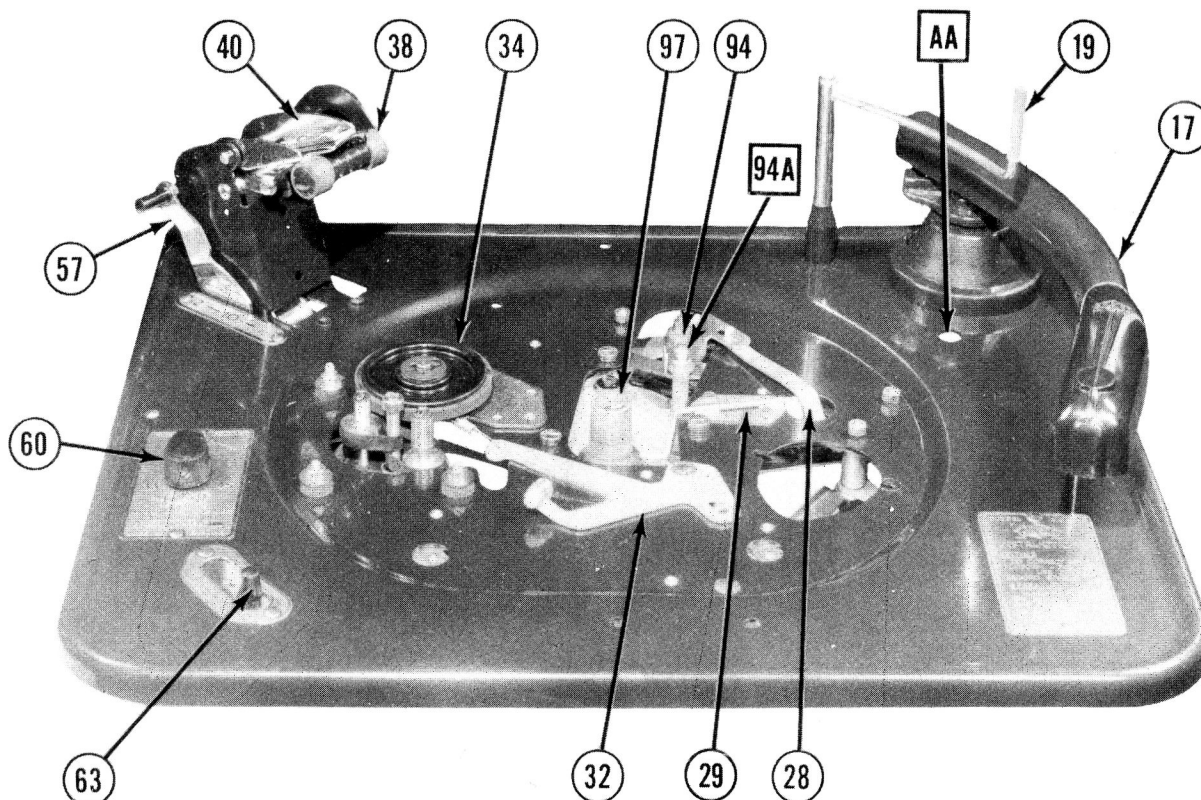
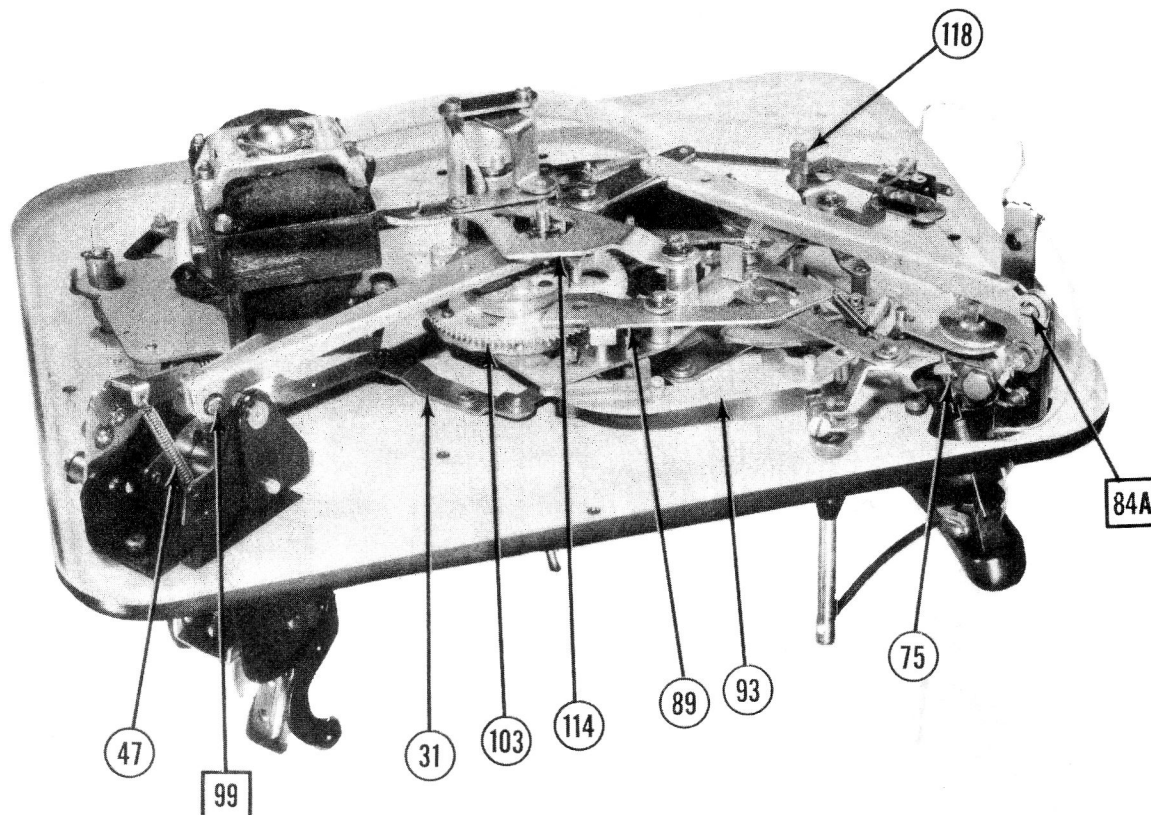

Figure 2
Figure 8
Tone Arm Height -(See Figure 8) -
2. Move the platform lever (57) to the 10" position.
3. Loosen the tone arm lever (76) clamp screw. See Figure 8.
4. Push up on the lever assembly (76) so that it does not bind on any parts; then move it counterclockwise so that the index lever will just touch the pin on the end of the positioning lever (31).
5. While holding the lever assembly (76) in this position, move the tone arm in so that the needle will rest in the starting groove of the record; then tighten the clamp screw and check the adjustment.
6. A finer adjustment can now be made by turning the eccentric set-down pin (76A): See [AA] Figure 2.